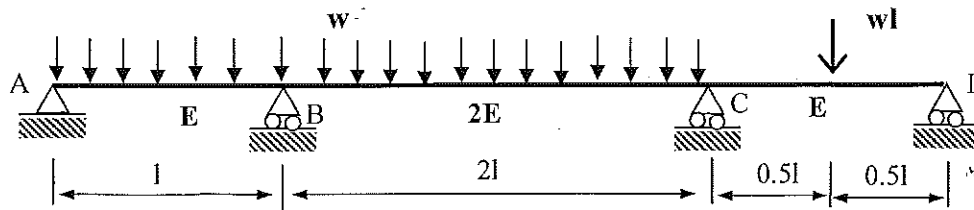

Figure Q4
- (ii) A continuous beam (ABCD) is shown in Figure Q4. Flexural rigidities of members AB and CD are equal to  $EI$  and member BC is  $2EI$ . Uniformly distributed load ( $w$ ) is acting on members, AB and BC and a concentrated load  $wl$  in member CD, respectively.